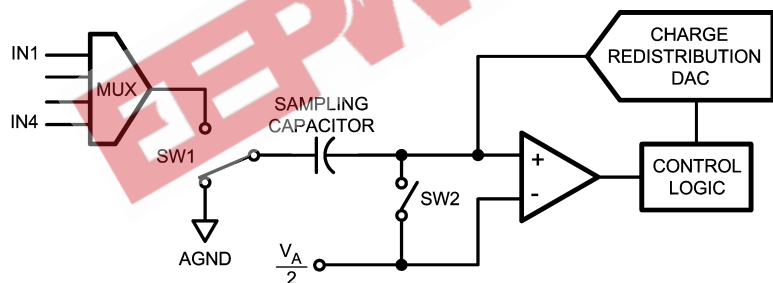

FIGURE 2. ADC124S021 in Hold Mode
*Figure 2* shows the ADC124S021 in hold mode: switch SW1 connects the sampling capacitor to ground, maintaining the